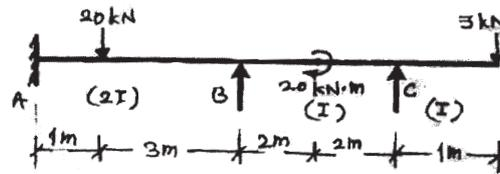

Fig. 3
- b) Analyse the continuous beam ABC using the moment distribution method. Also plot S.F. and B.M.D. showing important points. Refer Figure 3. [14]